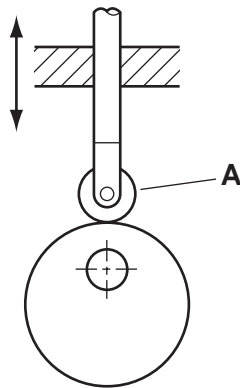

Fig. 2
- 2 Fig. 2 shows a diagram of a cam.
- (a) Name the type of cam shown in Fig. 2.
- (b) Name the part labelled **A** in Fig. 2.